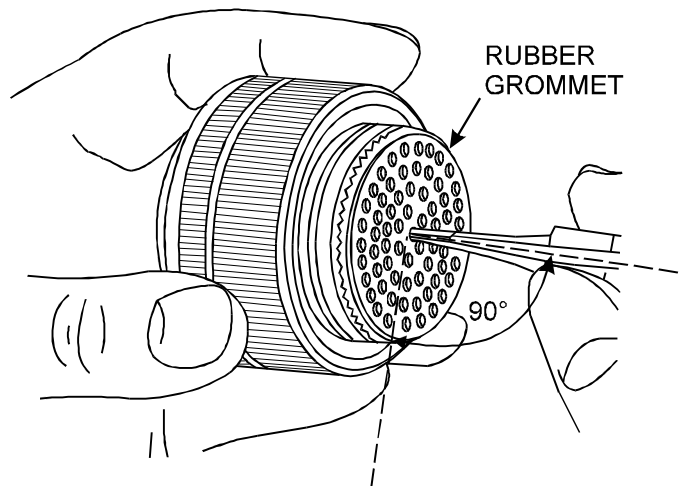

Figure 1-42
5. Working from the rear of connector, hold the tool with contact at right angles to the rubber grommet face placing the contact into the proper hole as shown in Figure 1-42.